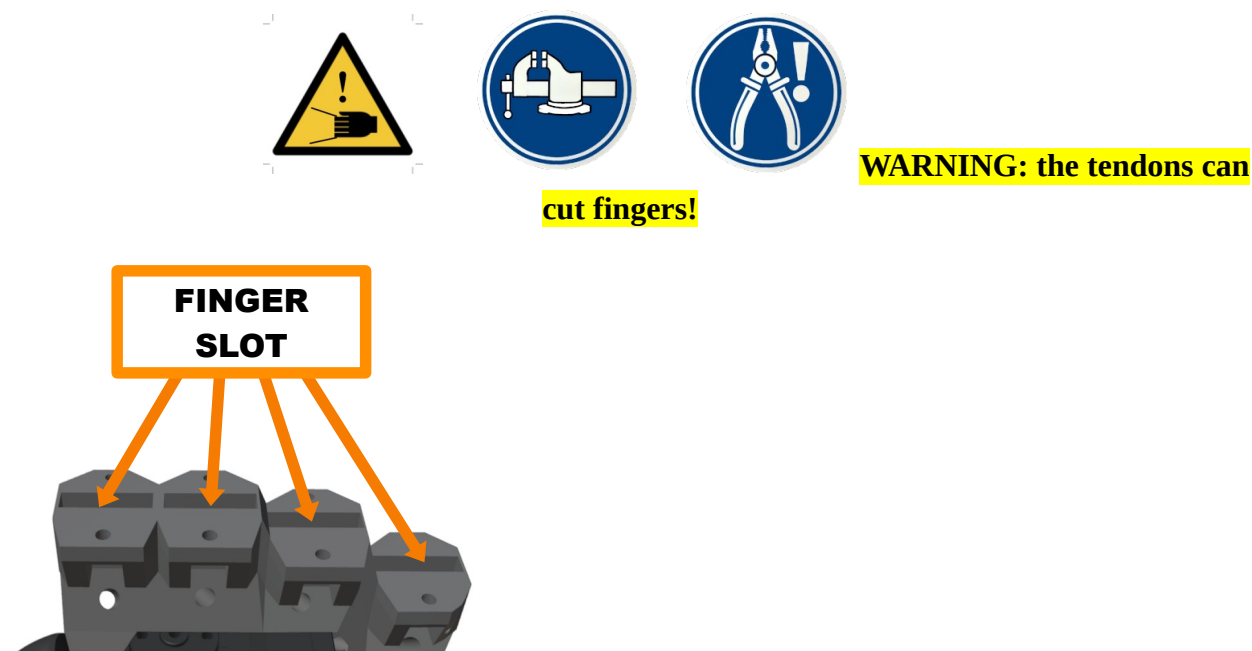

Figure 5.13: Finger slot
1. Insert the finger into its slot on the skeleton (figure 5.13)